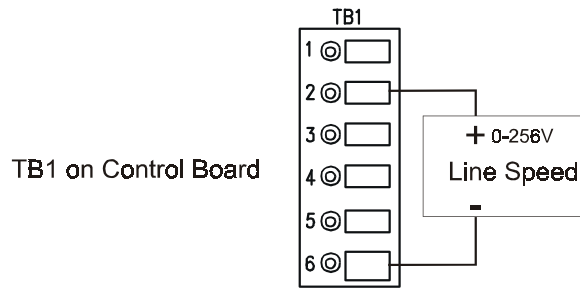

Figure 20- LINE SPEED FOLLOWER ELECTRICAL CONNECTIONS
1. Connect the input from your line speed source as shown in Figure 20.